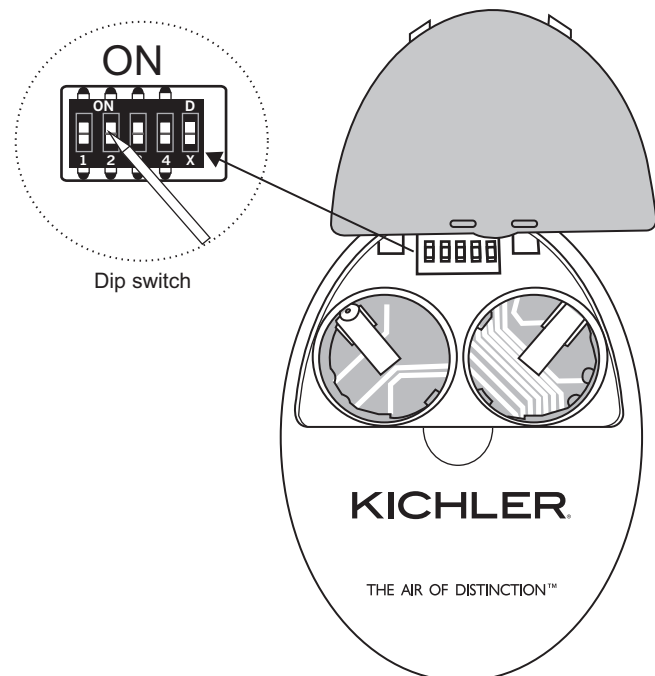

Fig. 12
Step 1. Connect the fan supply (black) wire to the black household supply wire as shown in Figure 12.
The Frequency Selector is a “Dip Switch Block” inside the Battery compartment of the Transmitter. (See figure 12) You change frequencies by arranging the small switches numbered 1 through 4 in a up or down position. 16 possible frequencies or combinations are possible.